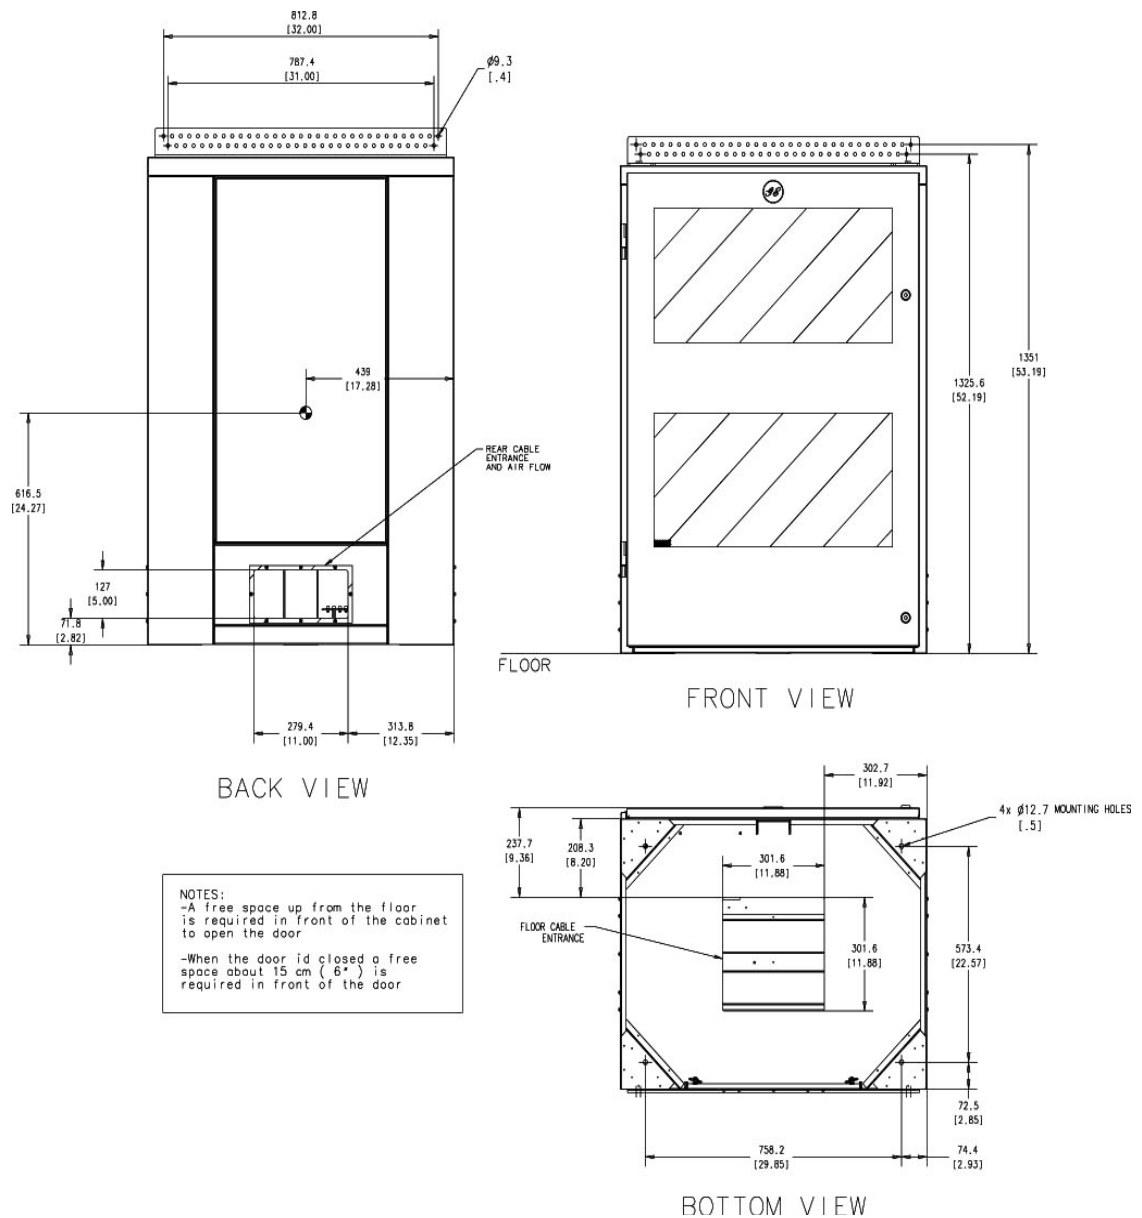
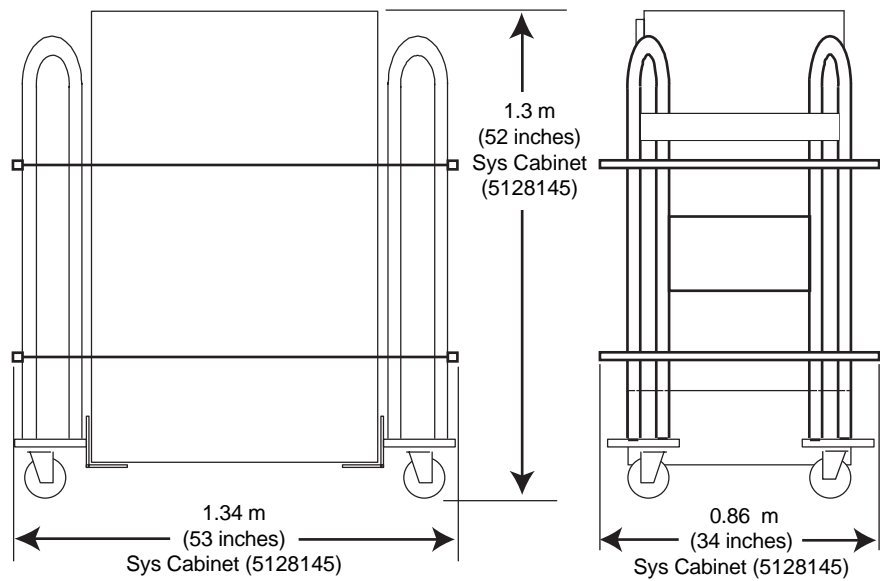

Figure 5-10 System Cabinet Dimensions (Front, Bottom, Back)
Figure 5-13 Typical Illustration Showing Shipping Dolly Dimensions
- System Cabinet (SKL) - Figure 5-10 through Figure 5-13.